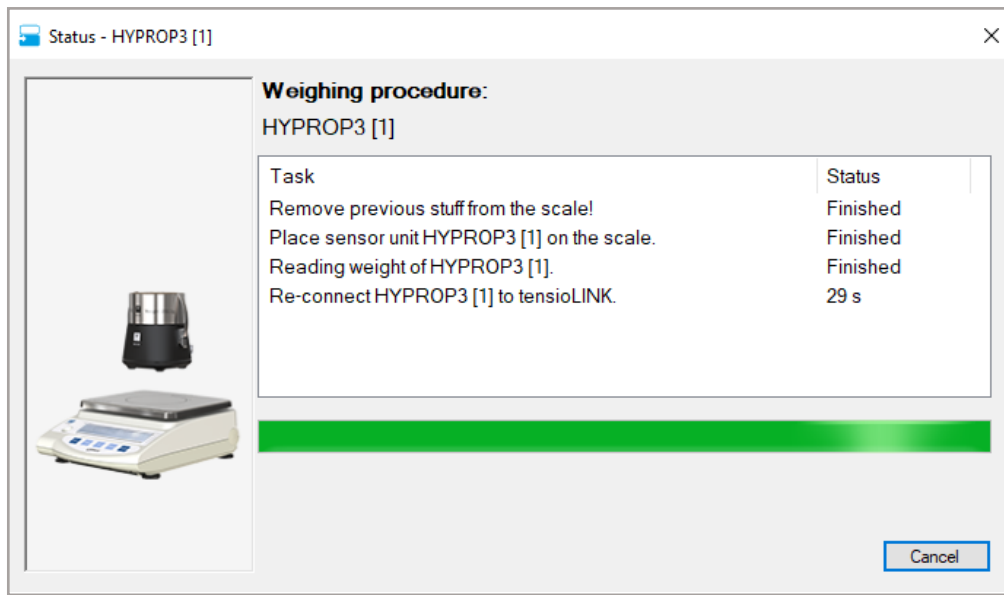

Figure 64 Weighing window
2. A software window appears showing the steps to proceed (Figure 64).